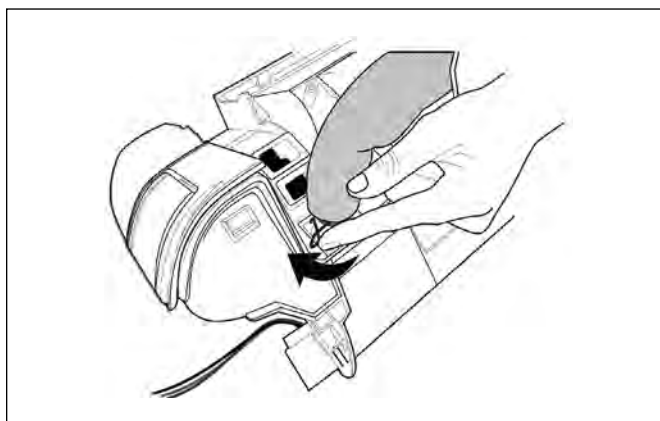

Figure 142
- Step 1: Rotate the fixed wire clockwise as shown in the Fig.142.